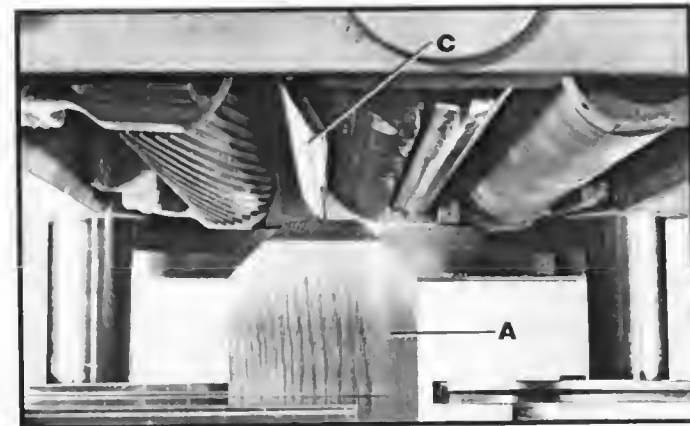

Fig. 36
4. Place the gage block (A) Fig. 36, minus the feeler gage, under one end of the chipbreaker (C), as shown. The bottom of the chipbreaker (C) should just touch the top of the gage block, as shown.